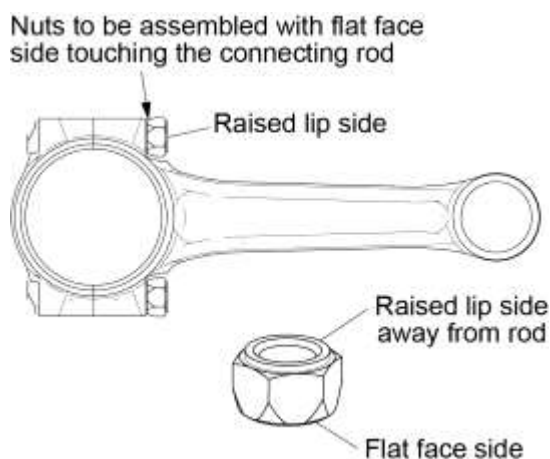
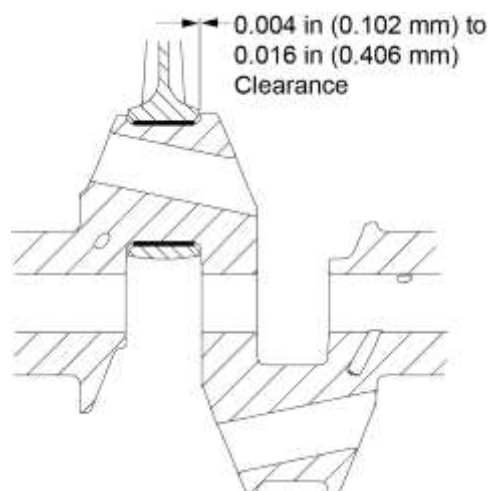

Figure 51
Figure 52
- (9) Install a new nut on each new connecting rod bolt where the flat face of the nut touches the connecting rod as shown in Figure 51.
- (10) Torque the connecting rod bolts per the torque values in the latest revision of Service Instruction No. SI-1458. (Stretch bolts require an initial torque and are then torqued to the correct stretched length.)
- (11) Measure the side clearance between the connecting rod and crankshaft with a feeler gage where shown in Figure 52. The clearance is to be 0.004 to 0.016 in. (0.102 to 0.406 mm) (service or overhauled) and 0.004 to 0.010 in. (0.102 to 0.254 mm) (on rebuilt engines). Compare the results to the measurements previously recorded.